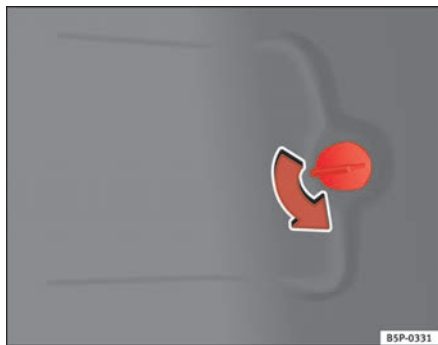

Fig. 193 Lights on vehicle body
- Remove the cover of the luggage compartment lateral panel ⇒ fig. 193.